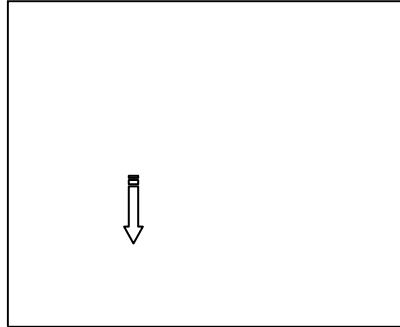

FIGURE 8 HANDSET BATTERY REPLACEMENT
1. On the reverse of the handset, remove the battery cover by pressing in at the top of the cover and sliding it down. (See **FIGURE 8**)